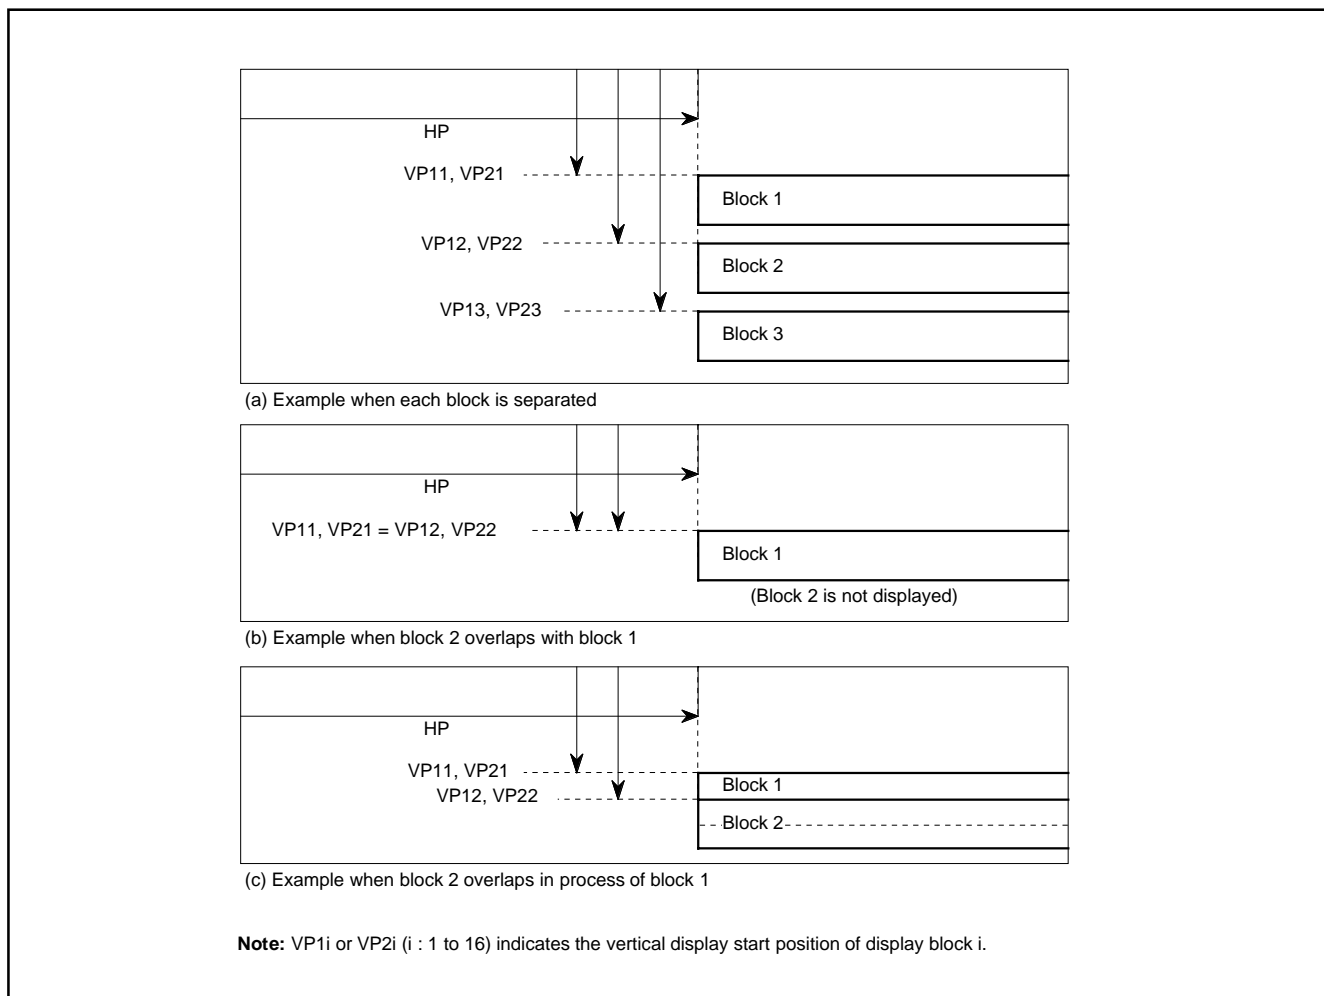

Fig. 8.11.8 Display Position
- When the display start position is overlapped with another block (Figure 8.11.8 (b)), a lower block number (1 to 16) is displayed on the front.
- When another block display position appears while one block is displayed (Figure 8.11.8 (c)), the block with a larger set value as the vertical display start position is displayed. However, do not display block with the dot size of 2T_c × 2H or 3T_c × 3H during display period (*) of another block.